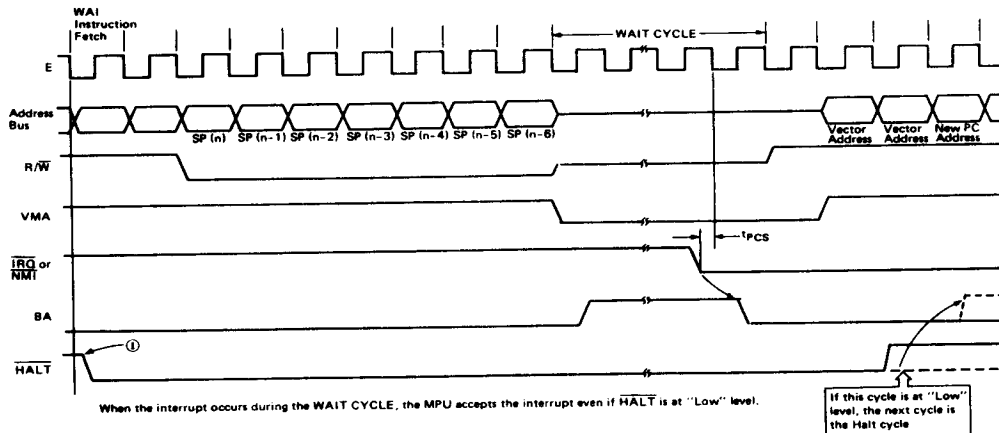

Figure 17 HD6802W WAIT CYCLE & $\overline{\text{HALT}}$ Request
The "Halt" signal is not accepted after the fetch cycle of the WAI instruction (See ① in Fig. 17). In the case of the "WAI" instruction, the MPU enters the "WAIT" cycle after stacking the internal registers and